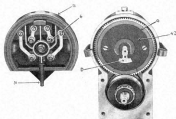

Fig. 5
shown in Figure 5. The distributor plate and collector brush holder are moulded into one unit. A metal connecting piece moulded into the distributor plate carries the current from the collector brush to the brush in the center of the plate. A metal segment (D) located in a hard rubber disc which is screwed to the distributor gear, conducts the current from the center brush and distributes it to each of the four distributor terminals when the distributor plate is secured to the magneto.